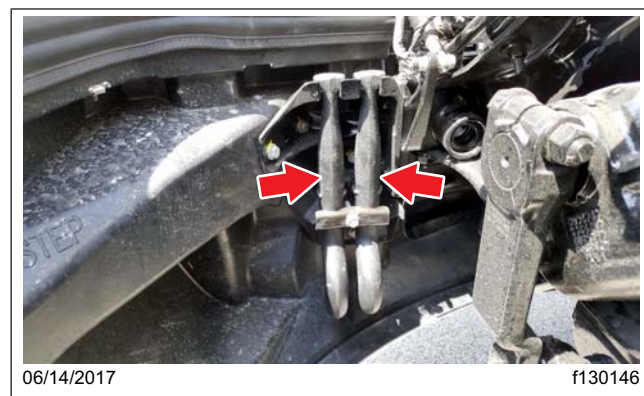

Fig. 13.6, Tow Hooks
2. Open the hood. Remove the tow hooks, located behind the driver's-side bumper. See Fig. 13.6. Close and latch the hood.